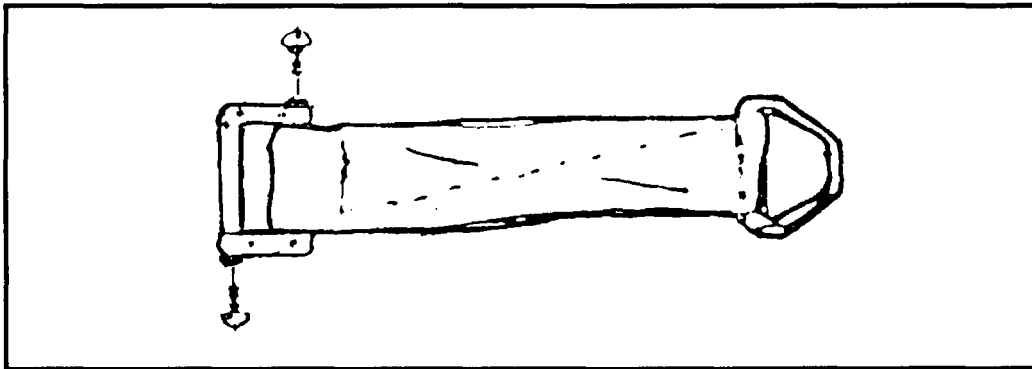

Figure 12-5. Lowering line adapter web.
a. The adapter web is attached by removing the screws from the L-bar connector link and removing the assembly from the web. The free end of the web is threaded through the left D-ring of the parachute harness and between the L-bar and main lift web. The link assembly is reattached through the loop on the free end of the adapter web and around the main lift web, and the screws are securely reset (Figure 12-5).